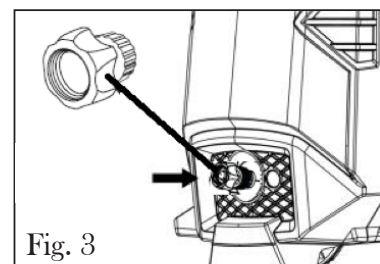

Fig. 3
3. Install the water inlet adapter to the water inlet by rotating the silver inner collar clockwise until it is securely tightened (Fig. 3).